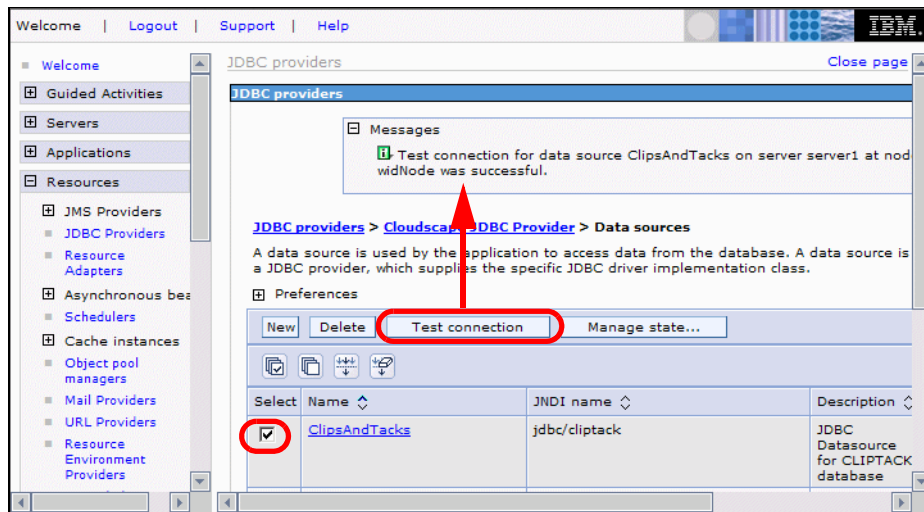

Figure 10-12 Testing the data source
- ▶ In the Cloudscape JDBC Provider (XA) data source list, select the *ClipsAndTacks* data source and click *Test connection* (Figure 10-12).